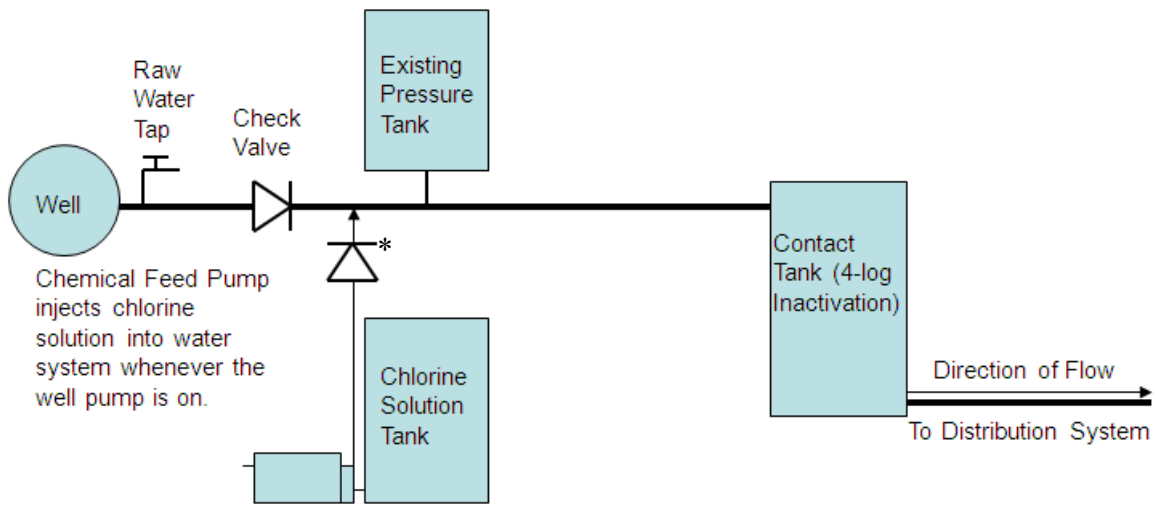

Figure 1: Configuration for Continuous Chlorination Disinfection System for Single Well
- A raw water tap and check valve installed prior to the pressure tank and treatment. See Figures 1 and 2.
The configuration of the set up varies dependent on whether there is a single well and the chlorination pump is tied directly to the well pump circuit, or there are multiple wells and the chlorination pump is activated by a flow-meter with an electrical signal output. Figures 1 and 2 represent typical set ups based upon the number of active wells receiving treatment.
When the chlorination pump is connected electrically to the well pump circuit directly, the chlorine injection point should be before the pressure tank. This prevents a pressure tank full of un-chlorinated water from flowing into the system before the chlorination pump turns on. See **Figure 1**.